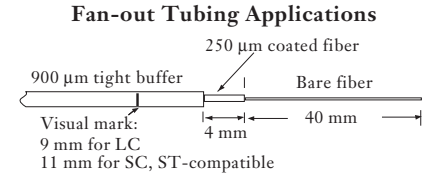

Figure 67 — Mark from Edge of Coated Fiber
- Strip 900 micron coating an additional 4 mm, leaving 250 micron coating exposed (Figure 67).